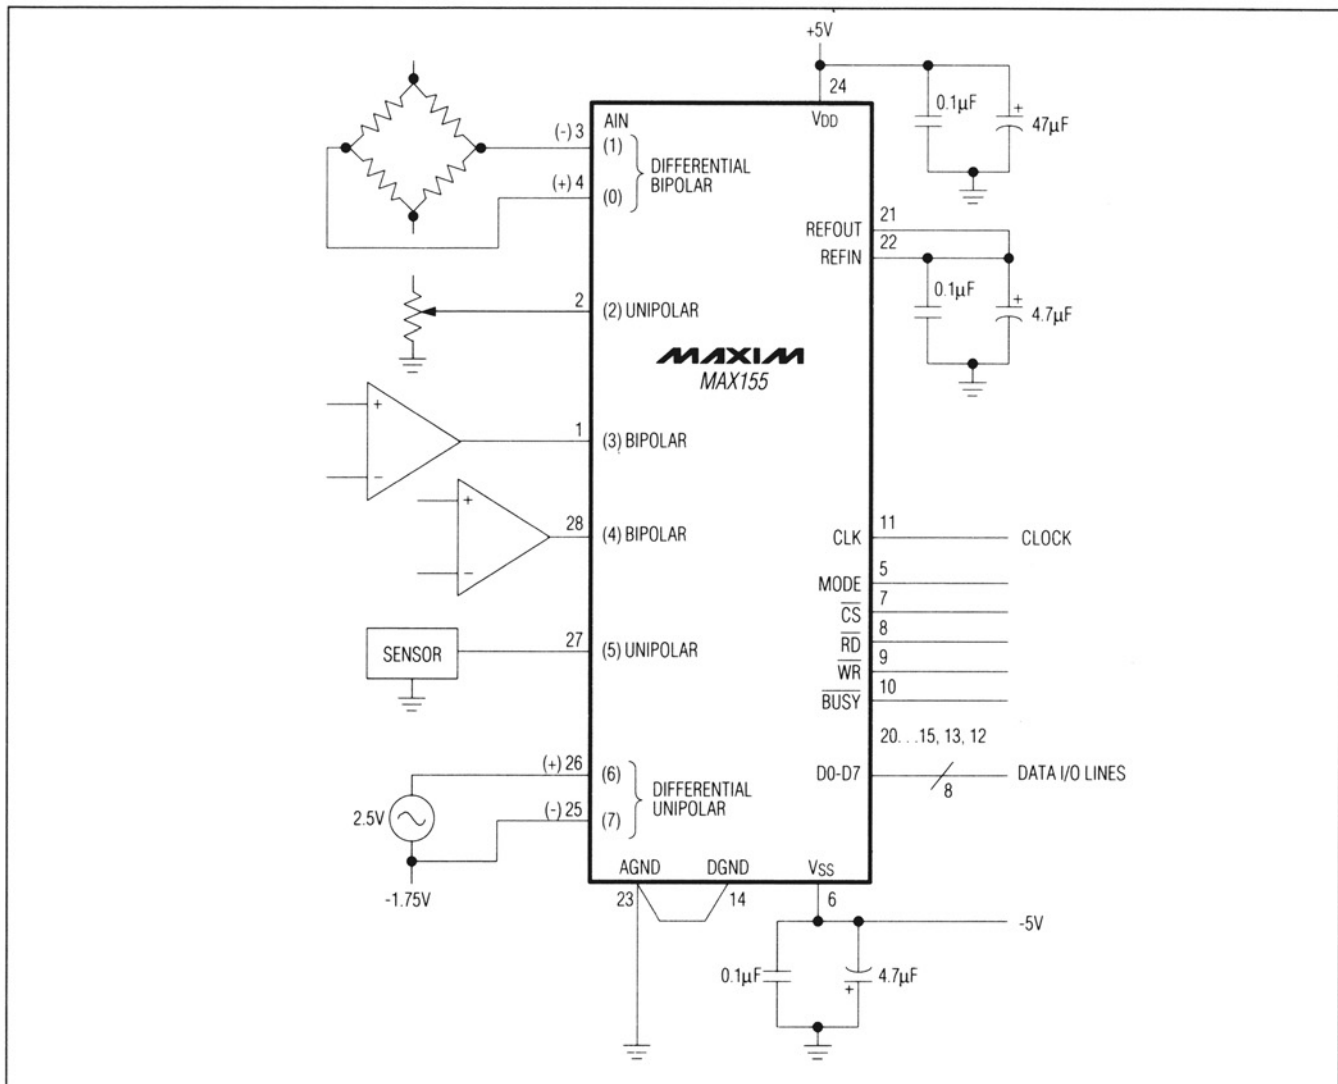

Figure 10. MAX155/MAX156 Typical Operating Circuit
where N is the number of channels converted. This includes one clock cycle of uncertainty. For a single channel and 5MHz clock, the conversion time is  $(9 \times 1 \times 2) / 5MHz = 3.6\mu s$ . For the MAX155, the maximum conversion time for 8 channels is  $(9 \times 8 \times 2) / 5MHz = 28.8\mu s$ . In the application example (Figure 10), six conversions are configured, and the conversion time is  $(9 \times 6 \times 2) / 5MHz = 21.6\mu s$ .
MAX155/MAX156 address and configuration inputs for this example were determined by selecting the desired channel configurations in Tables 2 and 3. Figure 10 illustrates the configuration outlined in Table 5.
3. Data is read from RAM with INH = L and consecutive  $\overline{RD}$  strobes. Note that in the 6 channel configurations described in this example (Figure 10), 6  $\overline{RD}$  pulses access all available data, starting with the differential channel (1,0). Additional  $\overline{RD}$  pulses loop around, accessing the lowest channel data again.